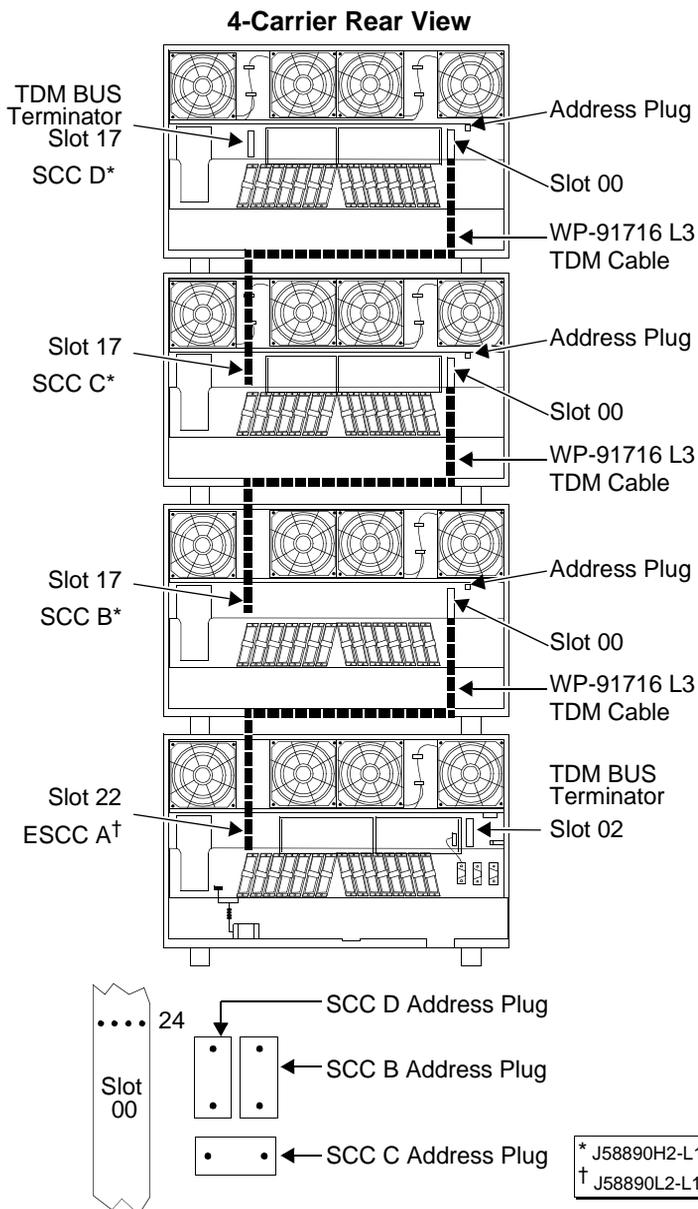

Figure 3-7. TDM Bus Connections for the Single-Carrier MSM
1. At the rear of the SCCs, replace the upper and lower panels (leave the screws loose). Refer to Figure 3-7 on page 3-12.